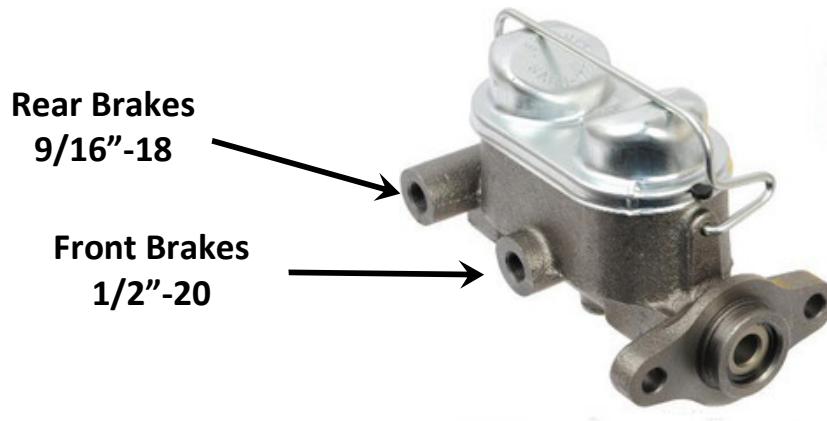

Figure 9 – Brake Line Routing
9. With the entire booster/master combo installed, the master cylinder can be plumbed into the vehicle. Figure 9 below shows proper front and rear hookups for the brake lines.